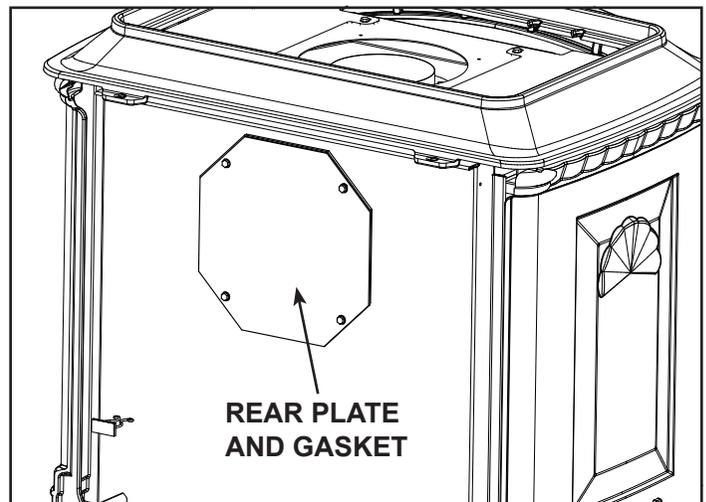
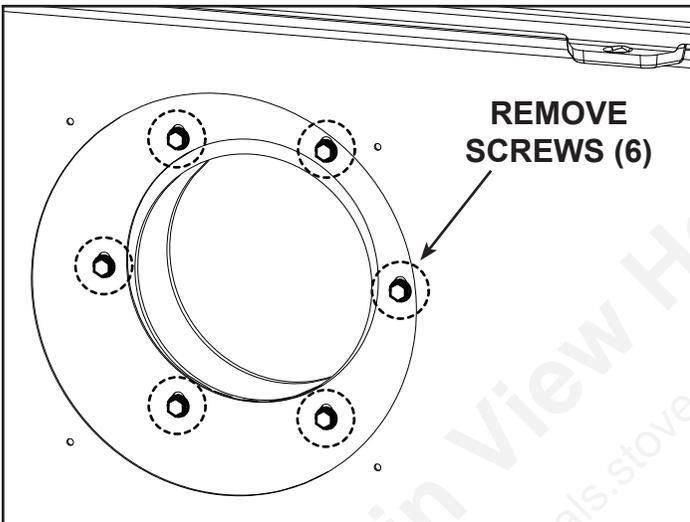
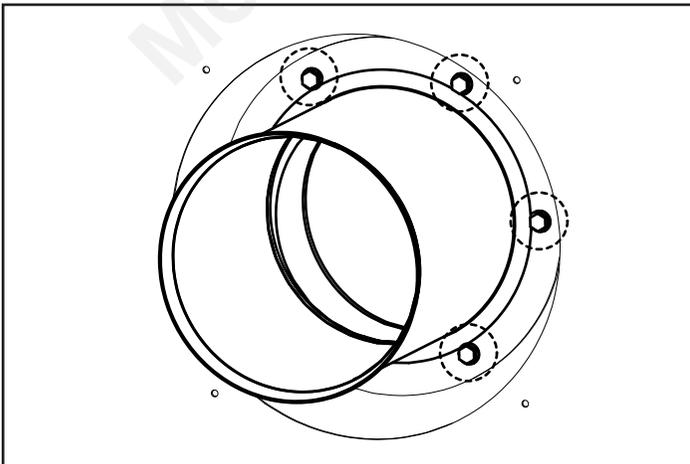

Figure 6.5
Figure 6.7 - Remove Screws Under Rear Access Plate
Figure 6.8 - Attach inner collar adapter to rear flue vent.
2. Remove vent pipe adapter and gasket by removing 4 screws. Save the screws. (If gasket breaks, apply high-temp sealant to bottom of adapter before installing as shown in Figure 6.8.)
- Remove rear access plate and gasket by removing four screws. Save the screws. See Figure 6.5.
- Remove six screws under the rear access plate removed in Figure 6.5. See Figure 6.7. Install inner pipe adapter and new gasket (included with kit) using six screws. See Figure 6.8.
- Install starting collar with gasket or high-temp sealant to rear vent opening. Attach with screws removed in Figure 6.5. Place grille gently into the opening on top of appliance. The grille does not have a hole and is included with the kit.